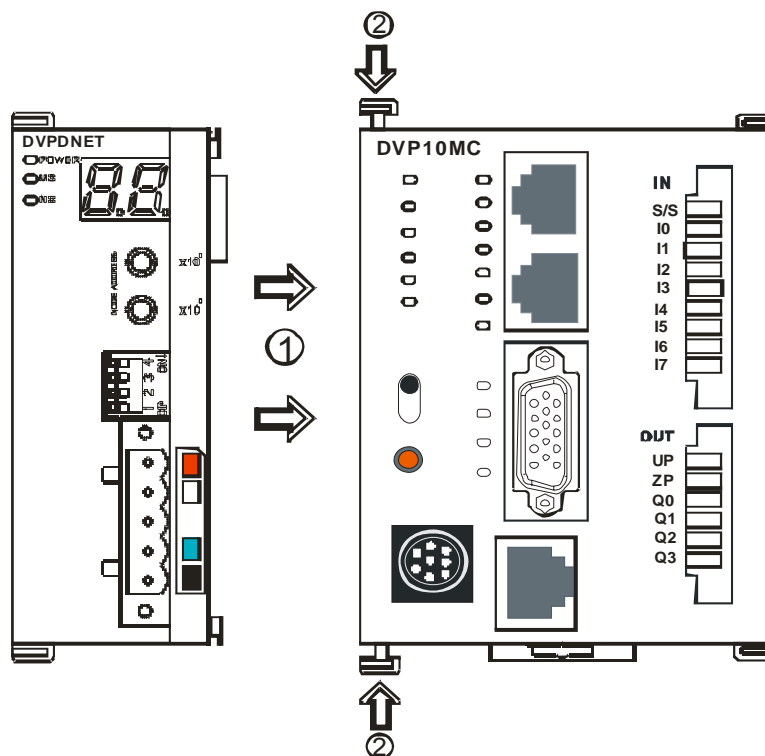

Figure 3.2.8
- Open the extension module clips on the top left and bottom left of DVP10MC11T and install DVPDNET-SL along four mounting holes in the four angles of DVP10MC11T as figure 3.2.8.